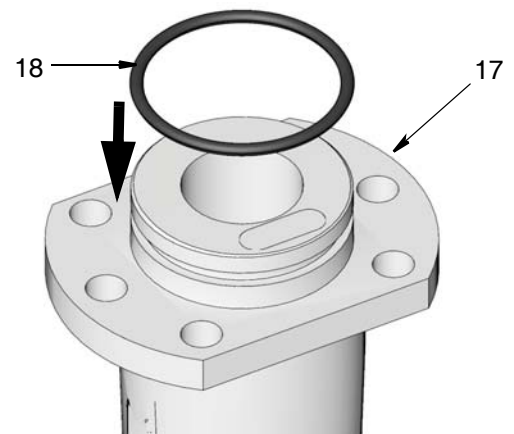

FIG. 54
- b. Apply a thin layer of grease to the new o-ring (18) and install new o-ring over outlet (17) as shown in FIG. 54.